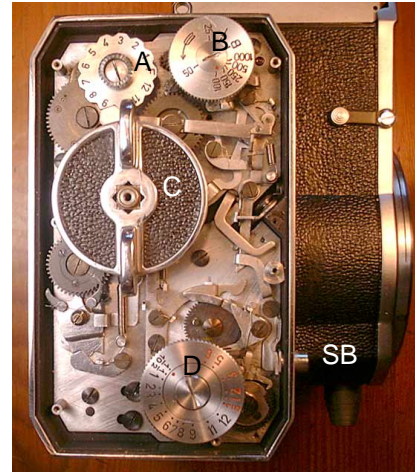

Fig. 1.
Figure 1, shows the mechanism, with the outside dials and knobs replaced. To the top left is the Exposure Counting Wheel (A), to the top right is the Shutter Speed Dial (B). In the middle is the Cocking Wheel/Winding Gear (C) and below that and to the right is the Time Delayed Action Dial (D). To its right is the shutter release button (SB)
Notice the gear on the back side of the counter dial (A. Fig. 1) and how one half of a gear tooth is cut away - look closely. Notice that the intermediate gear (E) has a 1/8" hole in it, just over one of the ratchet toggles.